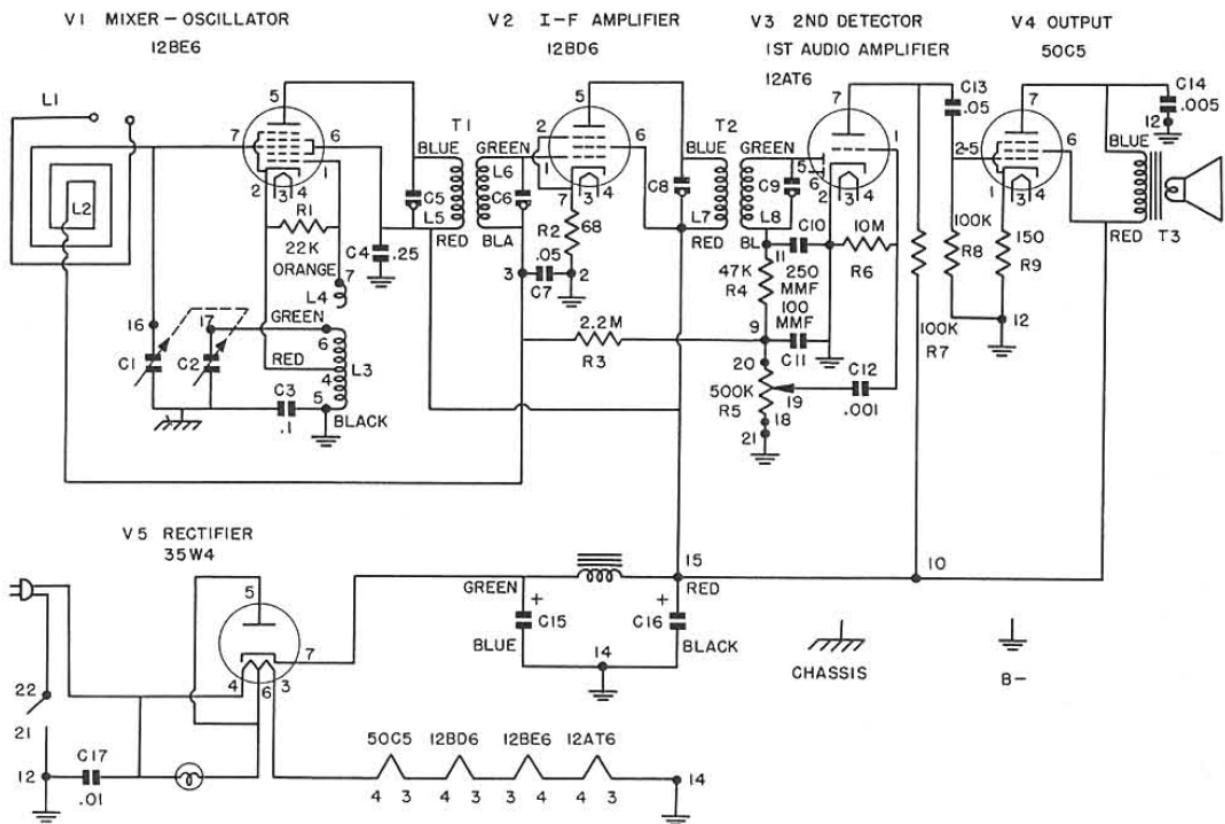

Fig. 3 - Schematic diagram of a typical AC-DC radio receiver.
The schematic diagram of a typical AC-DC receiver is shown in Fig. 3. The correct procedure for measuring the voltages in the 50C5 tube is outlined below:
(4) Plug the receiver into a power line outlet, turn the set on, and allow about thirty seconds for the tubes to reach operating temperature.
(5) To measure the plate voltage on the 50C5 tube socket, refer to Fig. 3. You will see that the plate is pin 7. Holding the probe by the insulated handle, touch the probe tip to socket pin 7. The meter will indicate the amount of voltage on the plate.
(6) Measure the screen grid voltage on the 50C5 tube by moving the probe tip to pin 6 of the tube socket. Leave the ground clip connected to the set side of the On-Off switch.
(7) The next DC voltage that you would measure is the bias voltage. In most AC-DC sets, you can find the bias voltage by measuring the voltage across the cathode resistor. If you were servicing the receiver shown in Fig. 3, you would leave the ground lead connected to B-, and touch the probe to pin 1 of the 50C5 tube socket. Since the voltage will be considerably less than the screen voltage, you will have to change the Range Switch setting.
Switch the Function Switch to the -DC position and measure the AVC voltage. You can measure the AVC voltage at terminal 3 in Fig. 3. Since this voltage will be a small negative value, switch the Range Switch to a low range. You will have to tune in a station on the receiver to get an appreciable reading. Notice that you can get maximum AVC voltage when the set is tuned exactly to the station. Also notice that strong stations produce more AVC voltage than weak stations.
To measure AC power supply and filament voltages, you connect the meter test leads directly across the line cord leads, or between the filament pins of each tube socket. For example, you would measure between pins 3 and 4 of any of the tubes in the set shown in Fig. 3. Hold the clip by the insulated handle and touch it to one of the tube socket pins connected to the tube filament. Then, touch the probe to the other tube socket pin. Be sure the Range Switch is on the proper setting.
Let us see how to check one section of the 20-20 $\mu$ F electrolytic capacitor in the filter circuit in Fig. 3.